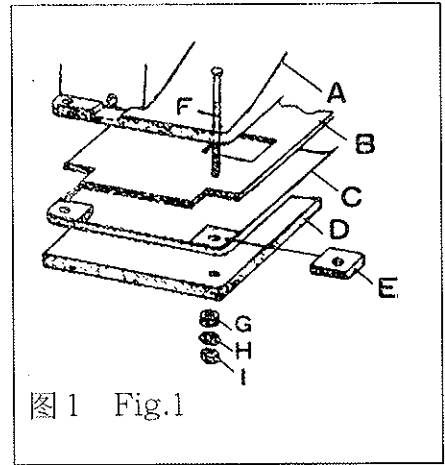
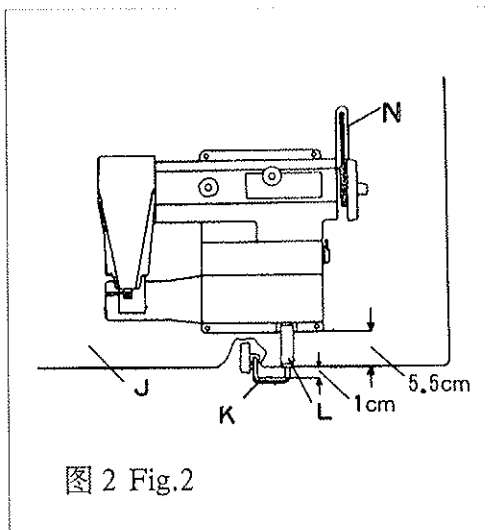

图1 Fig.1
图2 Fig.2
① 首先把后横档和踏板轴档与左右边架连接,再将踏板用踏板轴和踏板轴座与踏板轴档连接
② 将电动机与台板连接
③ 将台板放到机架上面,中间用四只台板垫圈隔开后用四只台板木螺钉和垫圈将台板与机架固定.
④ 将上、下拉杆分别与电机及踏板杠杆连接,并套上拉杆接头,调整好踏板的左右和高低位置后,将踏板固定,将拉杆接头固定,使踏板定位.
(2) Fitting machine frame
① Frist connect rear stand side support and treadle shaft beam with side frame (left and right),and then link up treadle with treadle shaft beam by treadle shaft and treadle shaft base.
② Mount the motot onto the table.
③ Put the table onto machine frame, partiton the table at the centre with four table washers, and fix the table and machine frame with washers and wood screws.
④ Connect upper and lower pull rod with motor and treadle lever, put on pull rod joint. After regulating position of treadle(left and right, high and low),fix the treadle and pull rod joint to locate the treadle
(3) 机头的安装
① 将底盘防震垫“D”、机座底盘“C”、机座防震垫“B”、防震垫“E”、机头“A”依次放到台板上,对准四只孔后将四只小六角螺栓“F”从上到下插入孔中,依次套上防松垫“G”、平垫“H”后旋上六角螺母“I”,对角逐次旋紧四只螺母,将机头固定在台板上(图1)
② 将膝操纵杆“K”及套筒“L”与长轴前端连接,膝操纵杆横杆离台板“J”前端距离为1厘米时将套筒固定(图2).
③ 装上三角带“N”,左右移动电机位置,使电机带轮与机头手轮对准后将电机固定在台板下,调节电机高低位置,使皮带松紧处于适宜状态.
④将电机开关固定在台板右前下方操作方便的位置上,接通电源.
① Put pads "A", "B", "C", "D", "E" onto the table in order as shown in Fig.1. Insert four hexagon head bolts with small head "F" into the holes. After putting on washers "G" and "H", put on hexagon nuts "I", tighten the four nuts diagonally, and fix the machine head on the table (Fig.1)
② Connect front end of long shaft with knee lifter "K" and sleeve "L". When the crossbar of knee lifter is 1 cm. distant from the front end of table "J", fix the sleeve (Fig.2).
③ Put on "V" belt "N", move the motor leftwards or rightwards so as to fix the motor under the sewing table after making the motor pulley in alignment with handwheel. Regulate the motor's height in order to make the belt in an appropriate state of tightness.
④ First fix the motor switch at the bottom right place of the front end of sewing table for the convenience of operation, and then turn on the power.